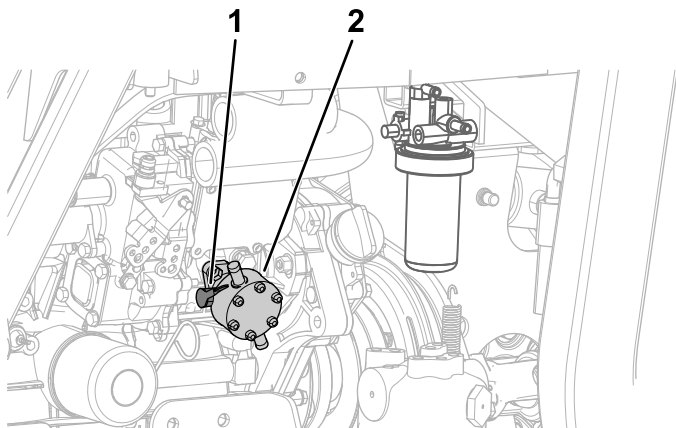

Figure 64
At the left side of the engine, operate the lever of the fuel pump until you fill the fuel-filter bowl (Figure 64).
7. Operate the lever of the fuel pump until you see solid stream of fuel flows out around the screw; refer to Figure 64 in Priming the Fuel System \(page 54\).